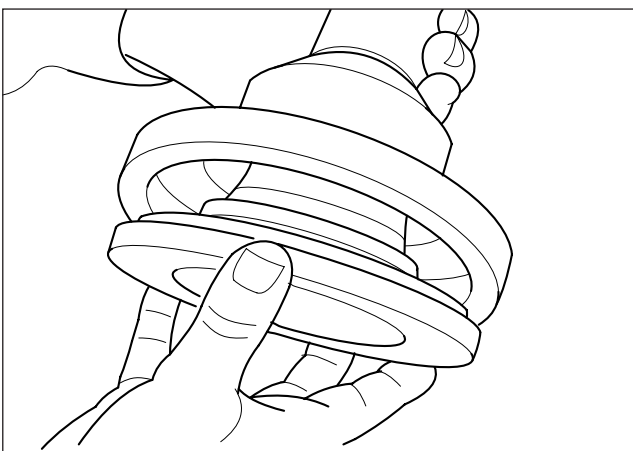

Fig. 2.65
6. Insert seal into service tool CT26. (Fig. 2.65)